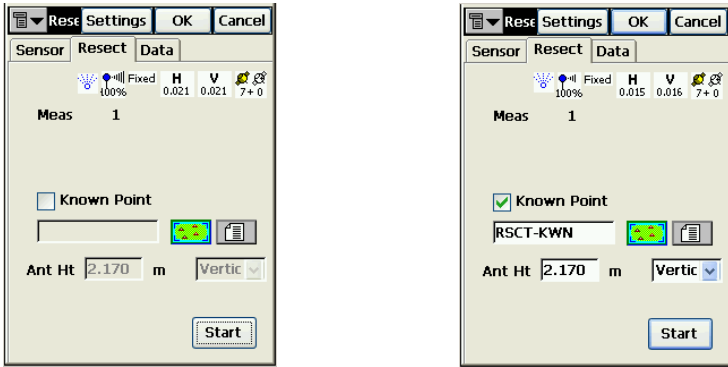

Figure A-3. Use Unknown or Known Point
- Tap the **Resect** tab (Figure A-3 on page A-3).